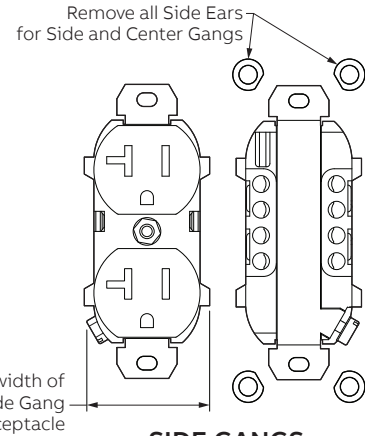

Figure 9
- Use only 20A Duplex or Rectangular Receptacles in Side Gangs. GFCI receptacles WILL NOT FIT in Side Gangs. Select receptacles with a 1.570" (39.8 mm) Max width or smaller to fit Side Gangs (see Figures 9 and 10).
- The side ears on the Devices must be removed for proper installation. (see Figure 9 and 11)
- 5.2.1 Remove side mounting ears from electrical devices to be installed in the Poke Through (See Figures 9, 10, and 11).